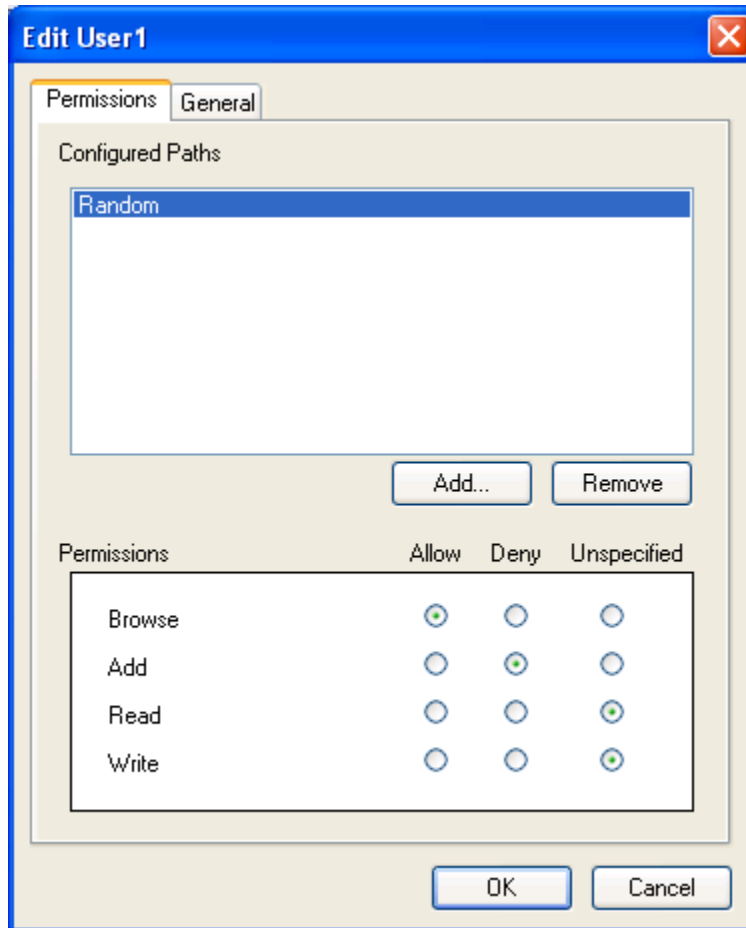

Figure 58 - Edit <Username>: Example
5. The selected path or item will be listed in the **Configured Paths** screen section of the **Edit User** window. Permissions can now be assigned, as in the example depicted in Figure 58.